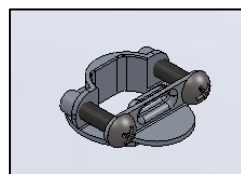

FIG. 9 - STRAIN RELIEF
- i. STRAIN RELIEF (as shown in FIG. 9)